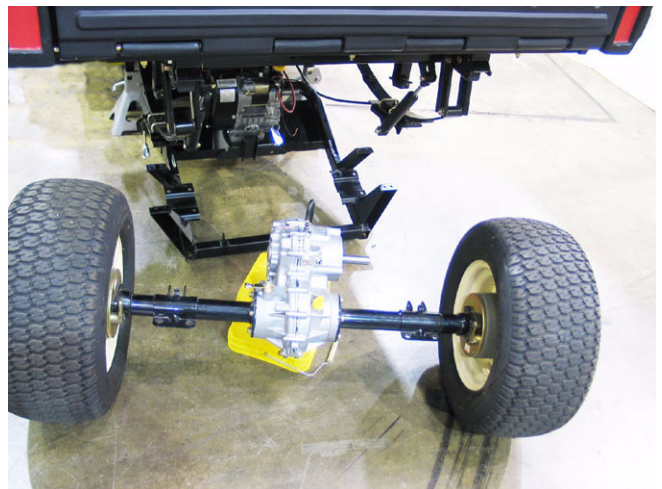

Figure 6.22
- 6.22. With a firm grip on the transaxle, lower the jack completely, tip the front of the transaxle up so that the housing clears the back of the cradle, and roll the transaxle clear of the cradle on it's own two wheels. See Figure 6.22.